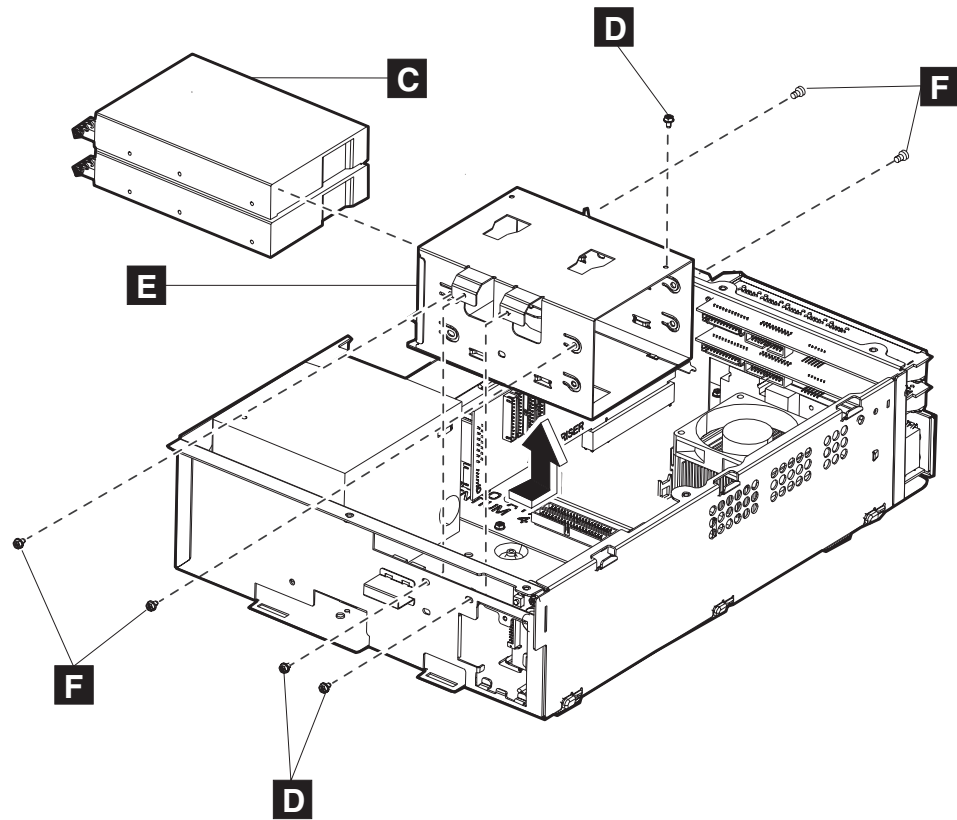

Figure 24. Hard disk drive and brackets
4. See Figure 24 and remove the screws (**D**) holding the hard disk drive bracket (**E**).
7. Remove the screws (**F** in Figure 24 on page 37) that hold the hard disk drive to the bracket.
8. Slide the hard disk drive (**C** in Figure 24 on page 37) out of the bracket.